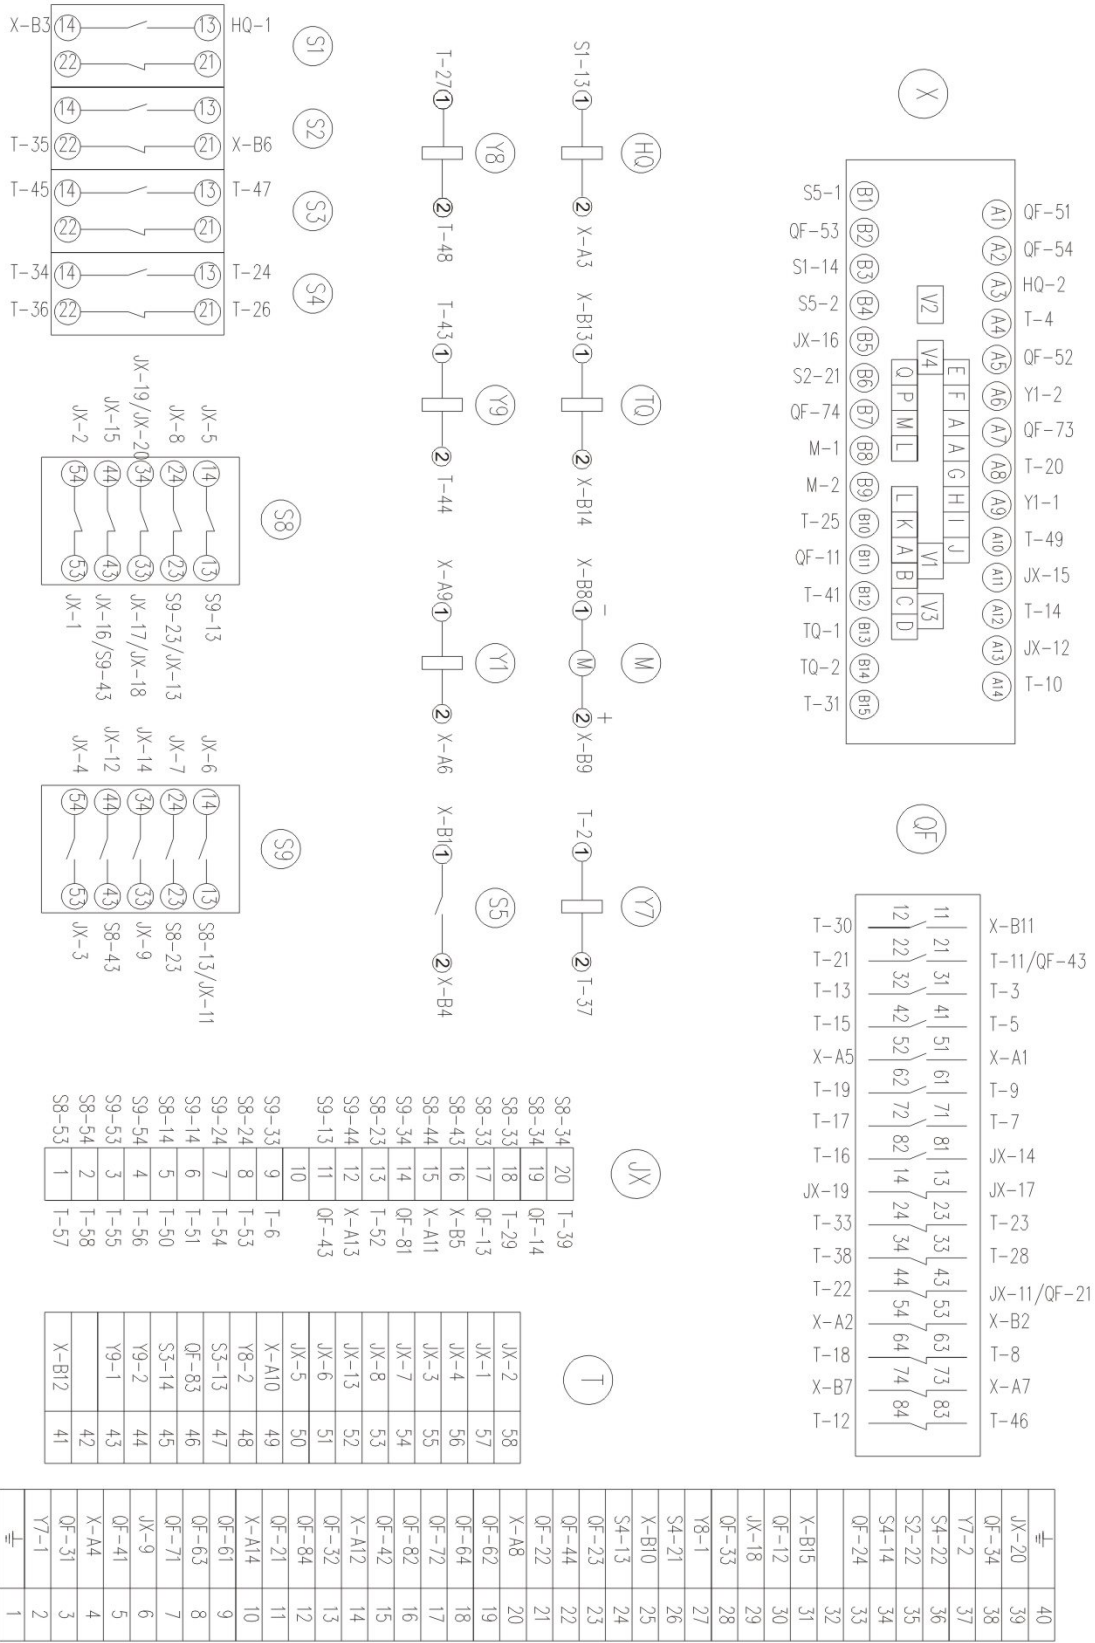

Figure 9-1 ZN63A (VS1) Handheld Wiring Diagram
7.1 The wiring diagram of the handcart circuit breaker is shown in Figure 9-1 (see Appendix A1)